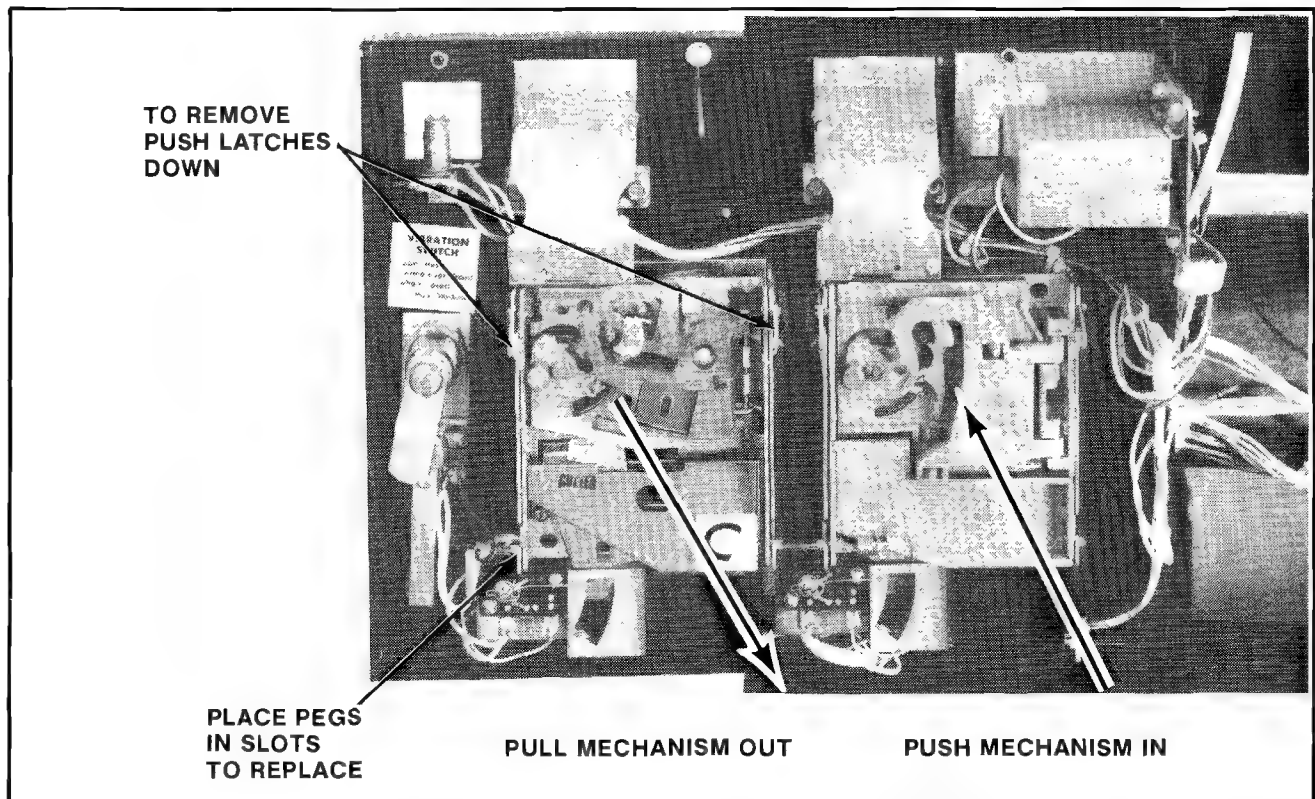

Figure 7-1 Removing and replacing coin acceptor
3. Remove the coin acceptor mechanism as shown in Figure 7-1.
9. Reinstall the coin acceptor to the coin door. See Figure 7-1.